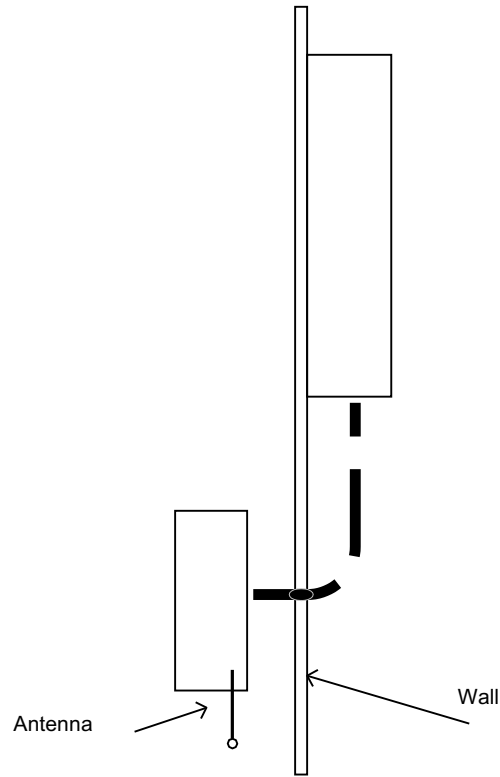

Figure 2.2: General Wiring
- d. Tape all ends of control wiring, and input power wire together from the ModelMinder and fish wires through into breaker panel. (**Figure 2.2**)